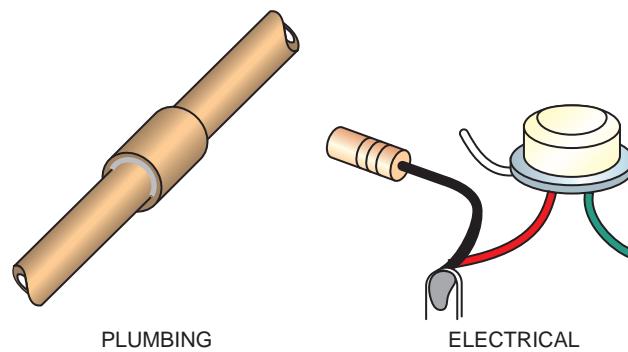

FIGURE 5-5 Examples of permanent joints that can easily be disassembled and the parts reused.
- May be permanently or temporarily joined—Since the base metal is not damaged, parts may be disassembled at a later time by simply reapplying heat. The parts then can be reused. However, the joint is solid enough to be permanent, Figure 5-5.